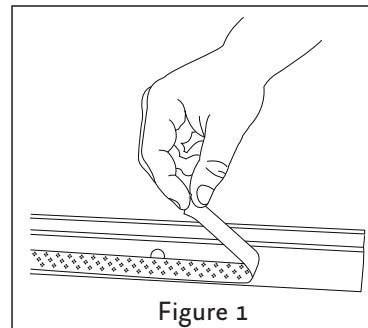

Figure 1
1. Remove the adhesive band from the gasket (see Figure 1).